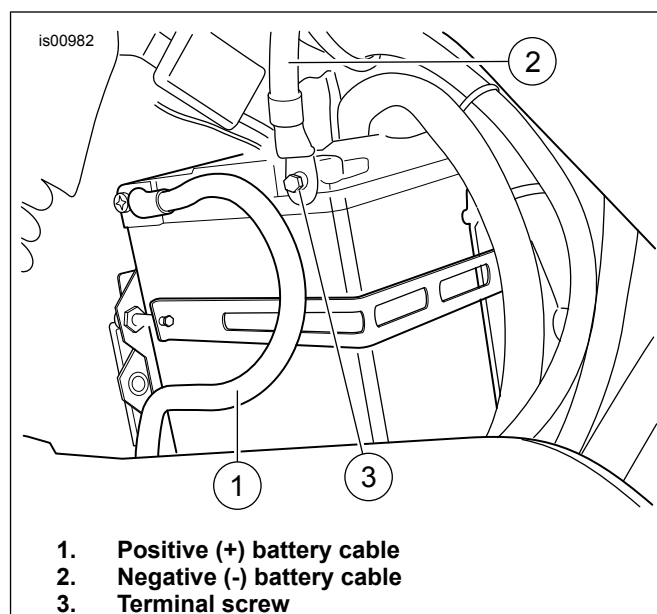

Figure 5. Battery Cable Routing (Left Side)
10. See Figure 5. Connect battery cables, positive cable (1) first. Note new routing of positive battery cable. Tighten battery terminal screws (2) to 60-96 in-lbs (7-11 Nm).